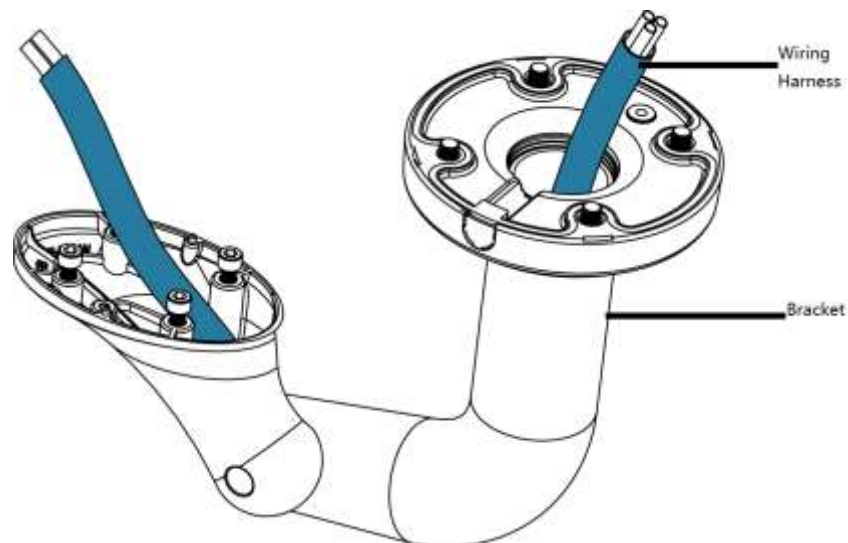

Figure 3-2
Step 1 Wiring harness goes through the bracket, as shown in Figure 3-2.